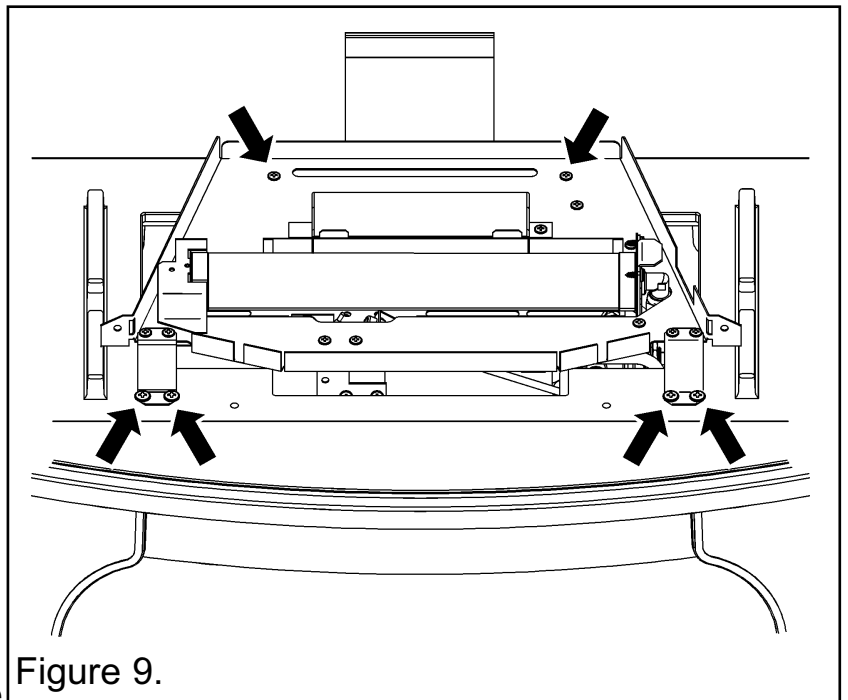

Figure 9.
5. Locate the burner assembly inside the stove body as in figure 9 (The outer body of the stove is not shown for clarity). Secure using the six No.4 x 10mm screws supplied